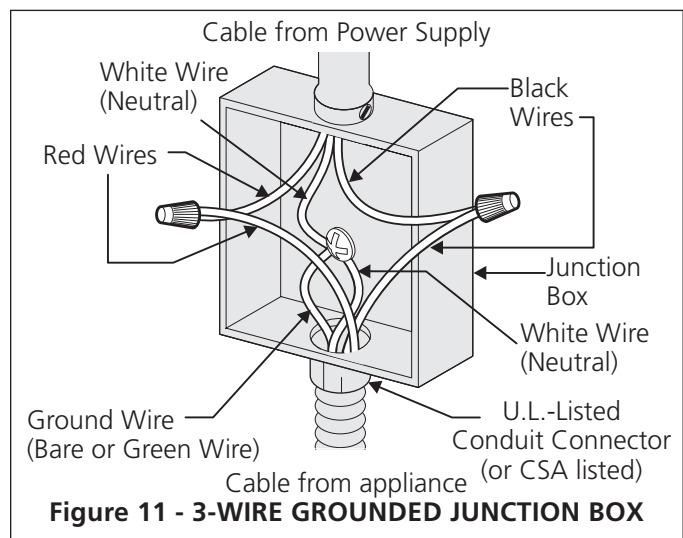

Figure 11 - 3-WIRE GROUNDED JUNCTION BOX
Where local codes permit connecting the appliance cable ground wire to the power supply cable neutral (white) wire (see Figure 11).
2. In the circuit breaker, fuse box or junction box: Connect appliance and power supply cable wires as shown in figure 11.